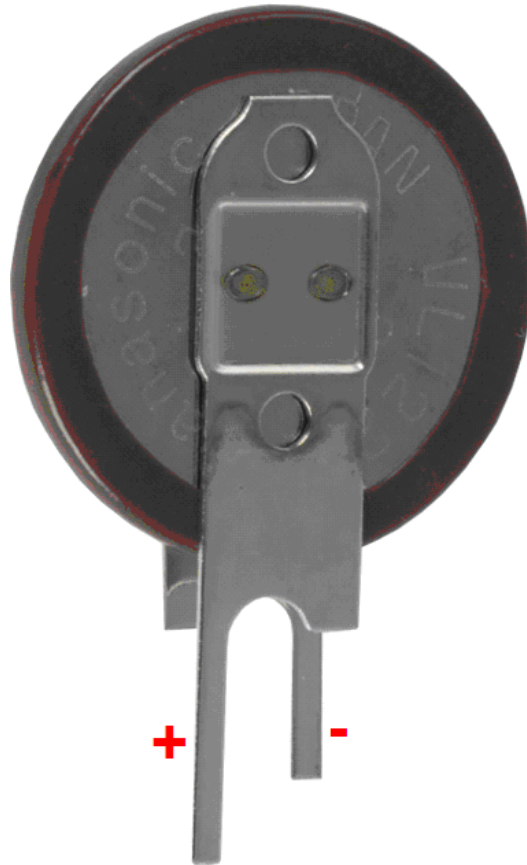

Figure 66. Optional Battery
The board was designed to use the VL-1220/VCN battery from Panasonic-BSG. This is a Vanadium Pentoxide Lithium Rechargeable Battery with a 7mAH capacity. **Figure 66** is a picture of the battery.
- 3) Using Figure 66, locate the positive (+) lead of the battery.